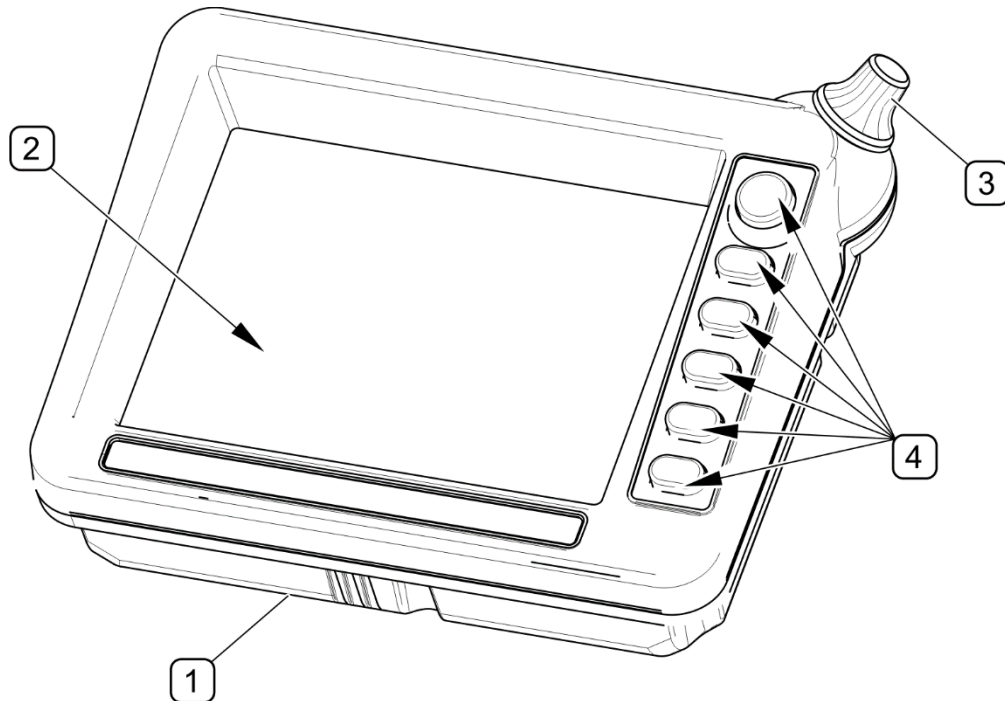

FIGURE 3.8 General design of control panel
(1) - enclosure; (2) - LCD display ; (3) - parameter change knob; (4) - function push-buttons
Control panel (FIGURE 3.8) consists of enclosure (1), colour LCD display (2), parameter change knob (3) and six function push-buttons (4).